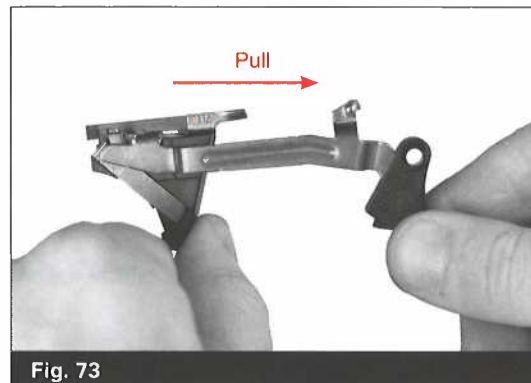

Fig. 73
- Grasp the trigger mechanism housing with your left hand and the trigger pad with your right. Ensure that the ejector is pointing to your right. (Fig. 73)